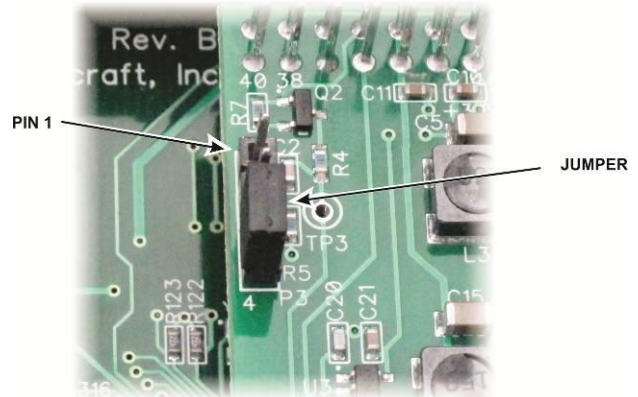

Figure 20. Power Control Jumper.
To configure the power control, loosen the four thumb screws and remove the PX3 rear panel. The jumper is located near the edge of the Power Supply (PS) board as shown in Figure 20.
Pins 3 & 4: Normal operation of the **PWR** switch. The jumper is shown in this position in Figure 20.